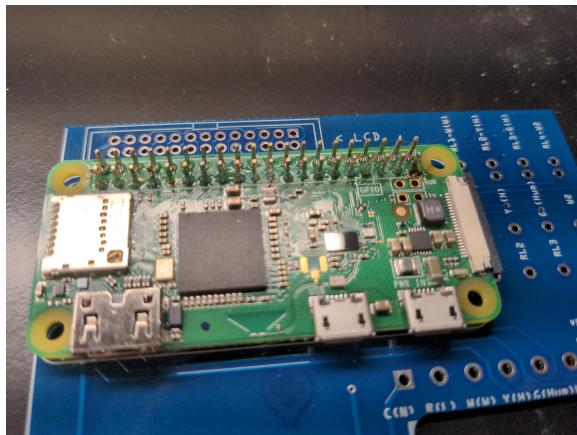

Figure 8: Pi soldered on, sans the reset pin that I had to go back and patch up later
2. Solder the pi onto those headers (figure 8)